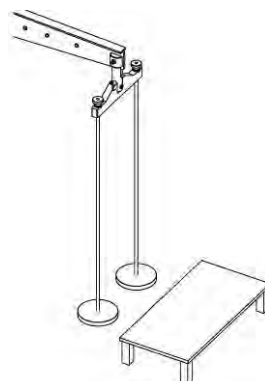

FIGURE 5 – Hanger Weight Platform
- 4.2 Place weight platform under hanger to be loaded, as shown in figure 5.
3. Place weight platform, figure 5, under hanger to be loaded.